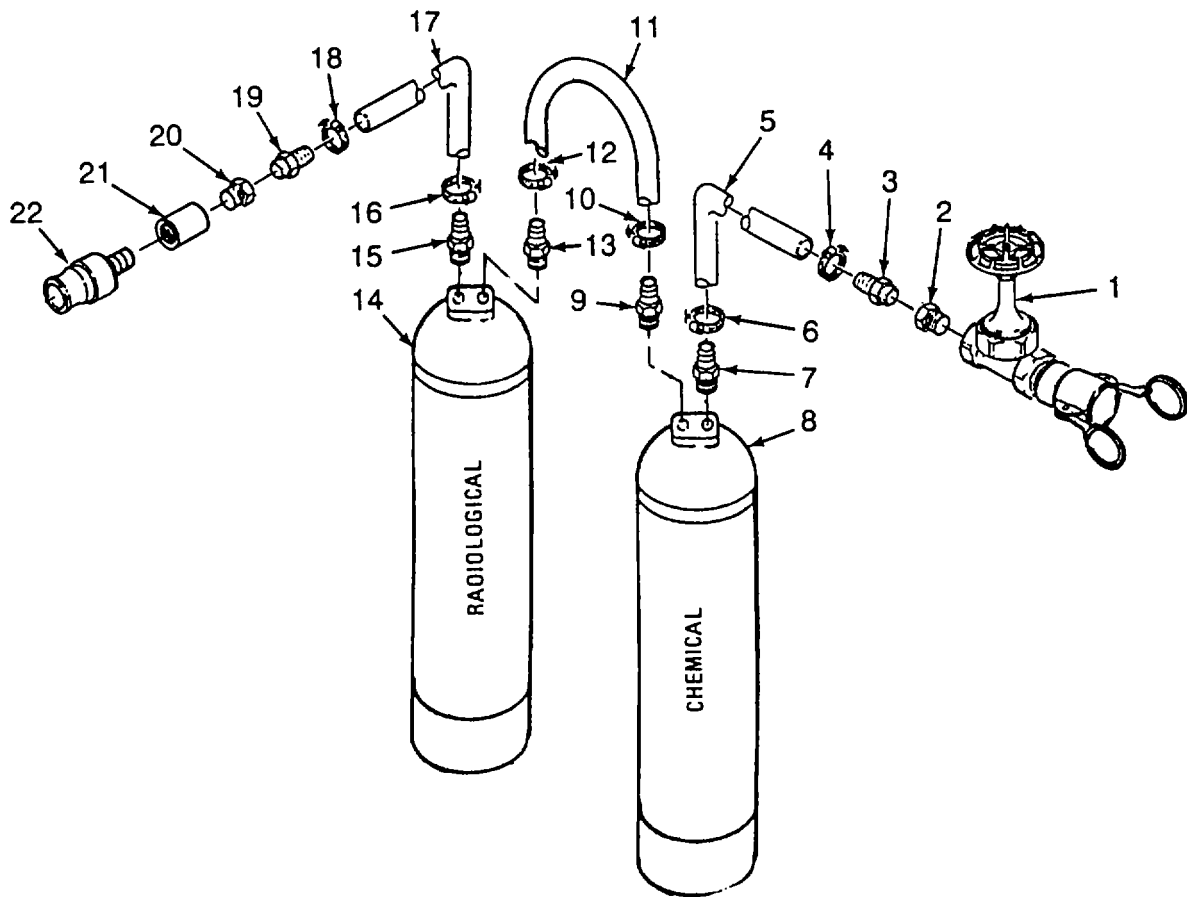
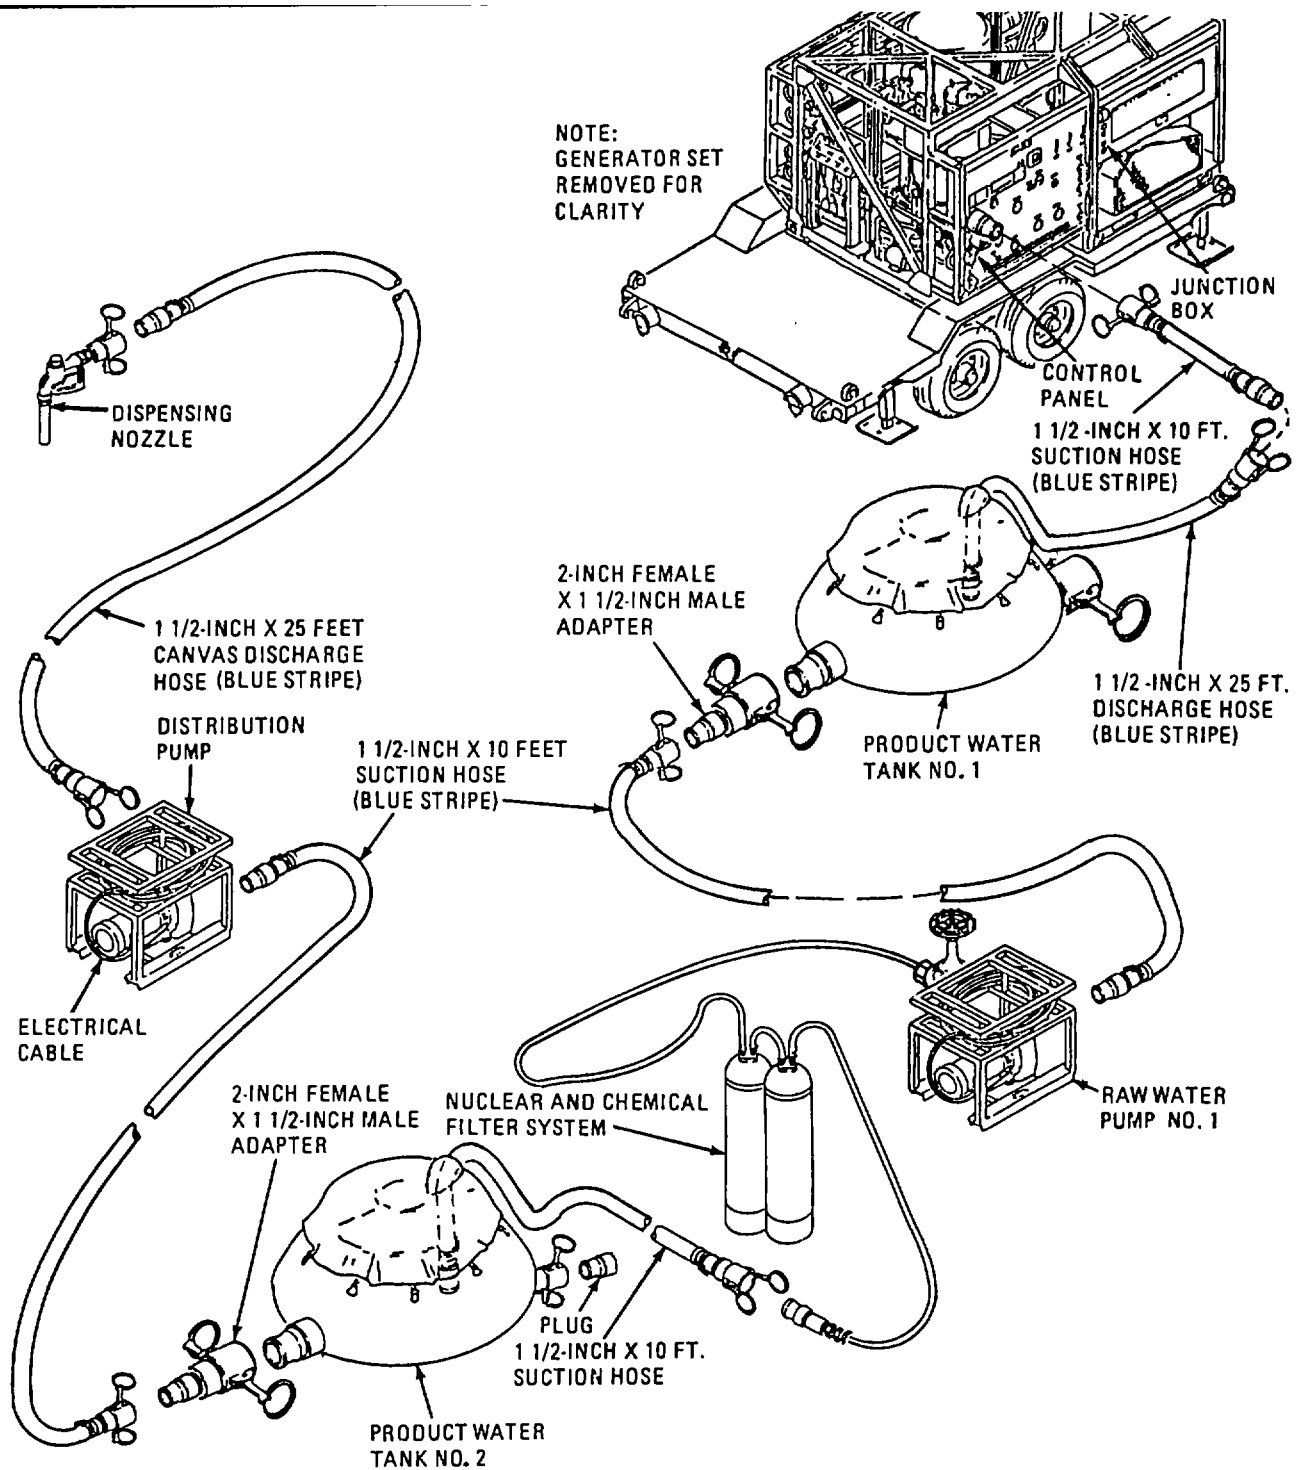

Figure 2-79. Nuclear, Biological and Chemical Filter System Assembly.
Figure 2-80. Product Water Setup for Operation in Nuclear, Biological or Chemical Contaminated Areas.
- (11) Connect tube section (11) to barbed adapter (9) on OUTLET port of chemical cartridge (8). Position hose clamp (10) over barbed adapter, then tighten clamp.
- (12) Connect other end of tube section (11) to barbed adapter (13) on INLET port of nuclear cartridge (14). Position hose clamp (12) over barbed adapter, then tighten clamp.
- (13) Connect tube section (17) to barbed adapter (15) on OUTLET port of nuclear cartridge (14). Position hose clamp (16) over barbed adapter, then tighten clamp.
- (14) Install male coupling (22) and bushing (20) on pipe coupling (21).
- (15) Install barbed adapter (19) on bushing (20).
- (16) Connect tube section (17) to barbed adapter (19) and install hose clamp (18). Position hose clamp (18) over barbed adapter, then tighten clamp.
- g. Setup Product Water System. Refer to figure 2-80. Working from the ROWPU control panel to product water dispensing point, connect components of the product water system with the nuclear and chemical filter system as follows:
- (1) Position and setup two product water tanks in accordance with TM 5-5430-227-12&P/TO 37A12-1-121.
- (2) Install adapter on product water tank No. 1 and plug in tank inlet coupling.
- (3) Install adapter on product water tank No. 2 outlet coupling and plug in tank inlet coupling.
- (4) Connect suction hose and canvas discharge hose to PRODUCT WATER coupling on control panel. Place end of canvas discharge hose in product water tank No. 1.
- (5) Connect suction hose between adapter on outlet coupling of product water tank No. 1 and suction coupling of raw water pump No. 1.
- (6) Connect gate valve (1, figure 2-79) of nuclear and chemical filter system to discharge coupling on raw water pump No. 1.
- (7) Connect discharge hose (figure 2-80) to male quick disconnect coupling (22, figure 2-79) on nuclear and chemical filter system. Place other end of discharge hose in top of product water tank No. 2 (figure 2-80).
- (8) Connect suction hose between product water tank No. 2 outlet adapter and distribution pump suction coupling.
- (9) Connect discharge hose to discharge coupling on distribution pump.